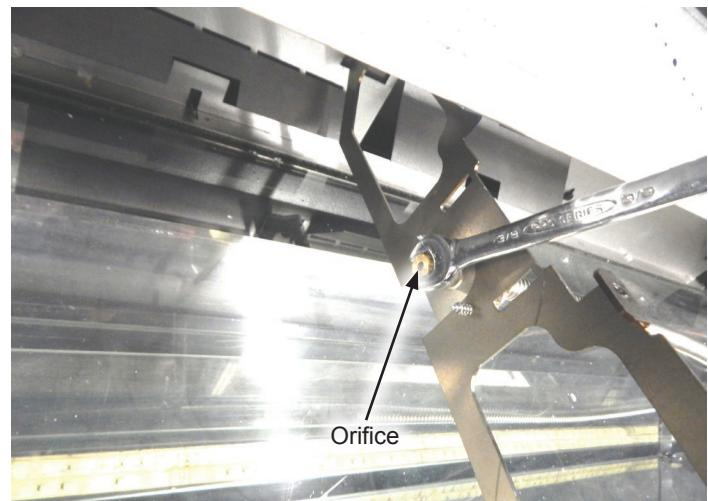

Figure 6
12. Using a 3/8" wrench, remove the #50 orifice from the orifice holder and discard. **See Figure 6.**
13. Install the new #31 orifice into the orifice holder. Do not overtighten. **See Figure 6.**